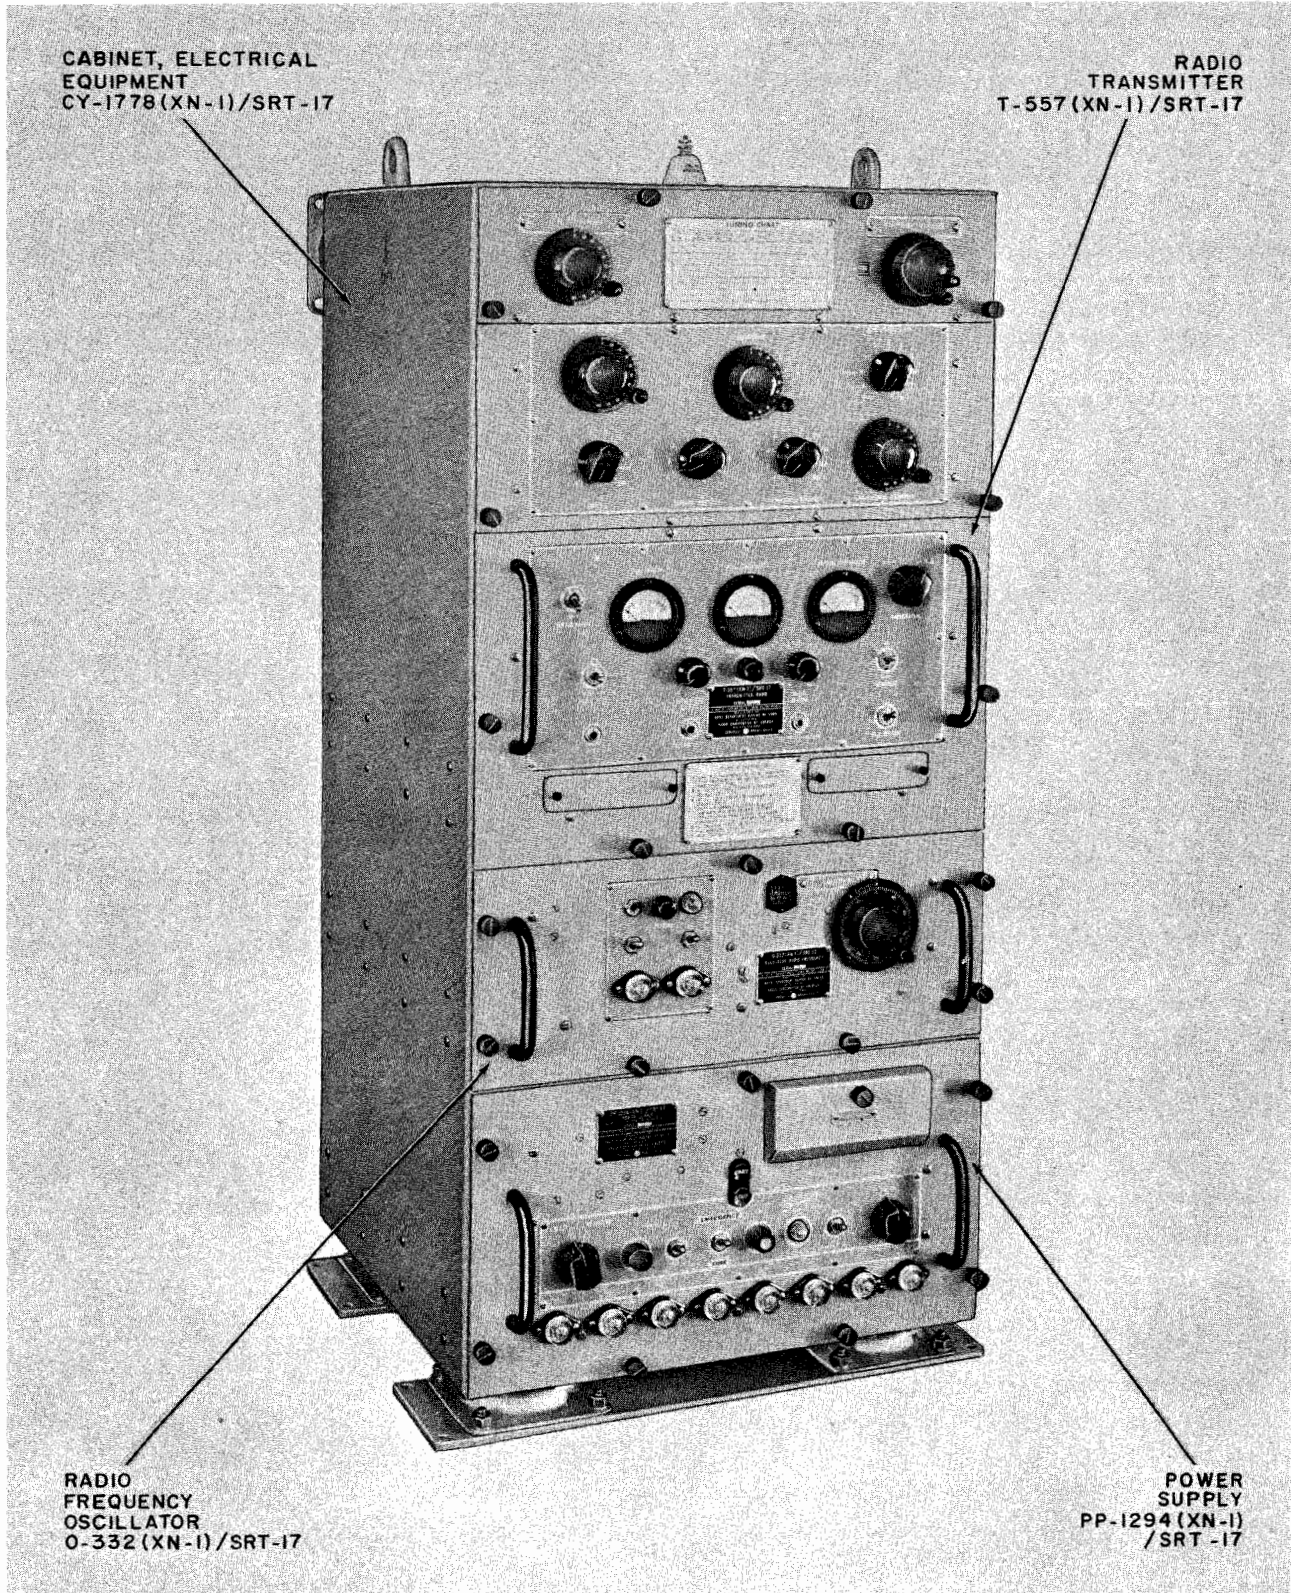

Figure 1-1. Radio Transmitting Set AN/SRT-17(XN-1), Relationship of Units
a. Radio Transmitting Set AN/SRT-17(XN-1) (figure 1-1) is intended for general purpose use on Navy vessels and at Naval radio communication shore stations under widely varying climatic conditions. It provides a complete radio transmitting facility with the exception of antenna, power source, keying and phone equipment. The transmitter has been designed to operate at ambient temperatures between -15 degrees (deg.) and +65 deg. C (5 deg. and 149 deg. F) and in a relative humidity up to 95 percent.
d. CABINET, ELECTRICAL EQUIPMENT CY-1778(XN-1)/SRT-17 (see figure 1-1).